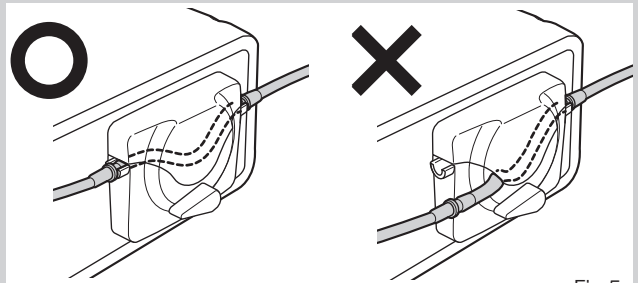

Fig.5
- Make sure that the tube is securely set on the rollers when closing the Pump Cover. If the tube is not correctly positioned on the Rollers and the cover is closed, the tube could be cut or sheared. (Fig.5)